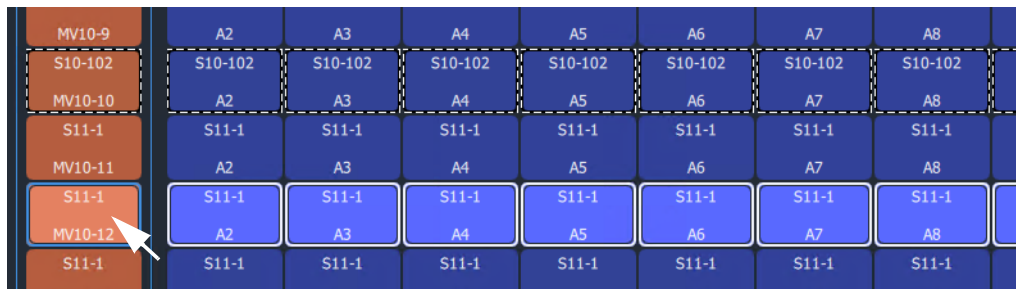

Fig. 11-84: 'CopyTo' Destination Selected
- 3 Select a Destination to 'copy to'. (See Figure 11-84.)